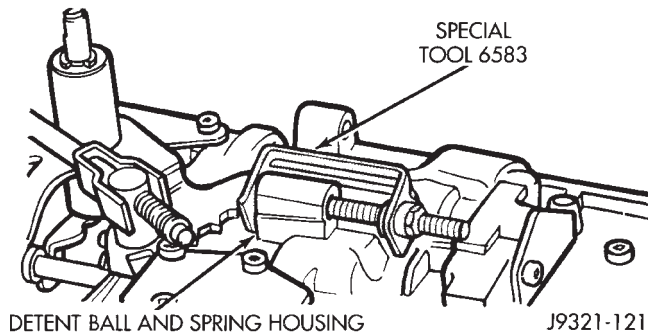

Fig. 45 Securing Detent Ball And Spring With Retainer Tool
(4) Secure detent ball and spring in housing with Retainer Tool 6583 (Fig. 45).